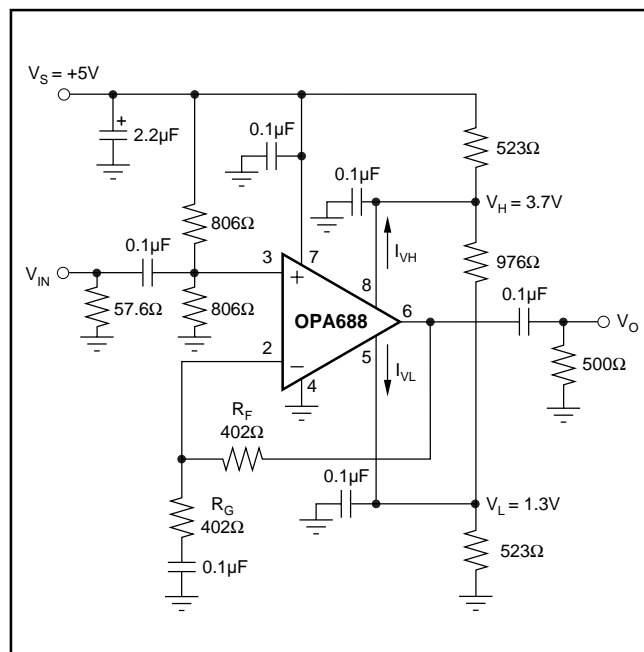

FIGURE 2. AC-Coupled, Single Supply Amplifier.
NOTES: (1) Junction Temperature = Ambient Temperature for low temperature limit and 25°C guaranteed specifications. Junction Temperature = Ambient Temperature + 23°C at high temperature limit guaranteed specifications. (2) TEST LEVELS: (A) 100% tested at 25°C. Over temperature limits by characterization and simulation. (B) Limits set by characterization and simulation. (C) Typical value for information only. (3) Current is considered positive out of node. (4) CMIR tested as < 3dB degradation from minimum CMRR at specified limits. (5) I_{VH} (V_H bias current) is negative, and I_{VL} (V_L bias current) is positive, under these conditions. See Note 3, Figures 2, and Figure 8. (6) Limiter feedthrough is the ratio of the output magnitude to the sinewave added to V_H (or V_L) when $V_{IN} = 0$. (7) V_H slew rate conditions are: $V_{IN} = V_{CM} + 0.4V$, $G = +2$, $V_L = V_{CM} - 1.2V$, $V_H =$ step between $V_{CM} + 1.2V$ and V_{CM} . V_L slew rate conditions are similar. (8) Linearity Guardband is defined for an output sinusoid ($f = 5MHz$, $V_O = V_{CM} \pm 1V_{p-p}$) centered between the limiter levels (V_H and V_L). It is the difference between the limiter level and the peak output voltage where SFDR decreases by 3dB (see Figure 8).
$G = +2$, $R_F = 402\Omega$, $R_L = 500\Omega$ tied to $V_{CM} = 2.5V$, $V_L = V_{CM} - 1.2V$, $V_H = V_{CM} + 1.2V$, (Figure 2 for AC performance only), unless otherwise noted.
Figure 2 shows an AC coupled, non-inverting gain amplifier for single supply operation. This circuit was used for AC characterization of the OPA688, with a 50Ω source, which
The OPA688 is nominally specified for operation using either $\pm 5V$ supplies or a single +5V supply. The maximum specified total supply voltage of 12V allows reasonable tolerances on the supplies. Higher supply voltages can break down internal junctions, possibly leading to catastrophic failure. Single supply operation is possible as long as common mode voltage constraints are observed. The common mode input and output voltage specifications can be interpreted as a required headroom to the supply voltage. Observing this input and output headroom requirement will allow design of non-standard or single supply operation circuits. Figure 2 shows one approach to single-supply operation.
When the limiter voltages need to be within 2.1V of the supplies ($V_L \leq -V_S + 2.1V$ or $V_H \geq +V_S - 2.1V$), consider using low impedance buffers to set V_H and V_L to minimize errors due to bias current uncertainty. This will typically be the case for single supply operation ($V_S = +5V$). Figure 2 runs 2.5mA through the resistive divider that sets V_H and V_L . This keeps errors due to I_{VH} and $I_{VL} < \pm 1\%$ of the target limit voltages.